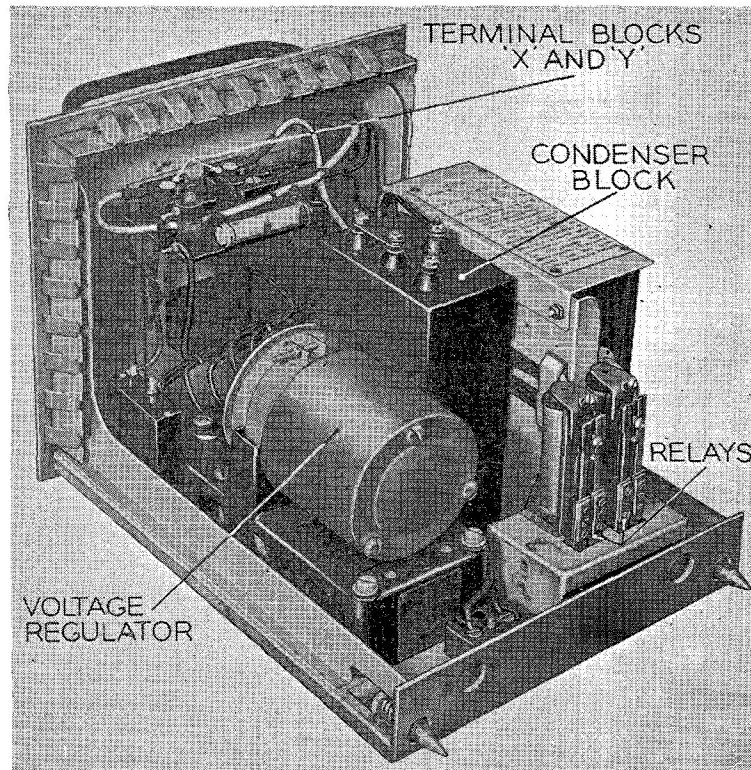

Fig. 1. Control panel, Type 4
2. The components of the control panel (fig. 1) are carried on a sheet steel base and front panel, a sheet steel screening cover sliding over this chassis; effective contact for screening purposes is provided by a number of spring-loaded contact fingers.